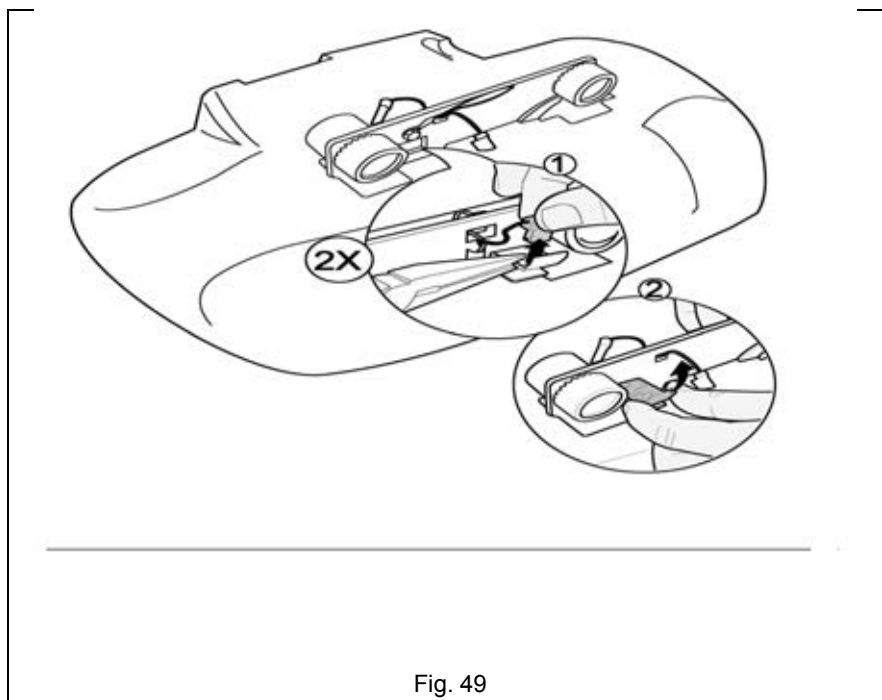

Fig. 49
- ❶ Remove the contact box (see Fig. 49), and remove the clear plastic cable guard from the cassette's trolley using an 8 mm (5/16") socket.
- ❷ Remove the wire harness cable from under the loosened cable guard.
- ❸ Remove the topshell housing to get access to the unit's frame.
- ❹ Unplug the ECS circuit board connector. You can now dispose of the cable.
- ❺ Connect the new ECS wire harness cable to the ECS circuit board.
- ❻ After replacing the upper plastic housing, thread the cable back into the cable guard on the trolley, and reinstall the screw.
- ❼ Reinstall the ECS contact box, and the top shell. Make sure that the unit's "antistatic" wire is oriented so that it will make contact with the track.